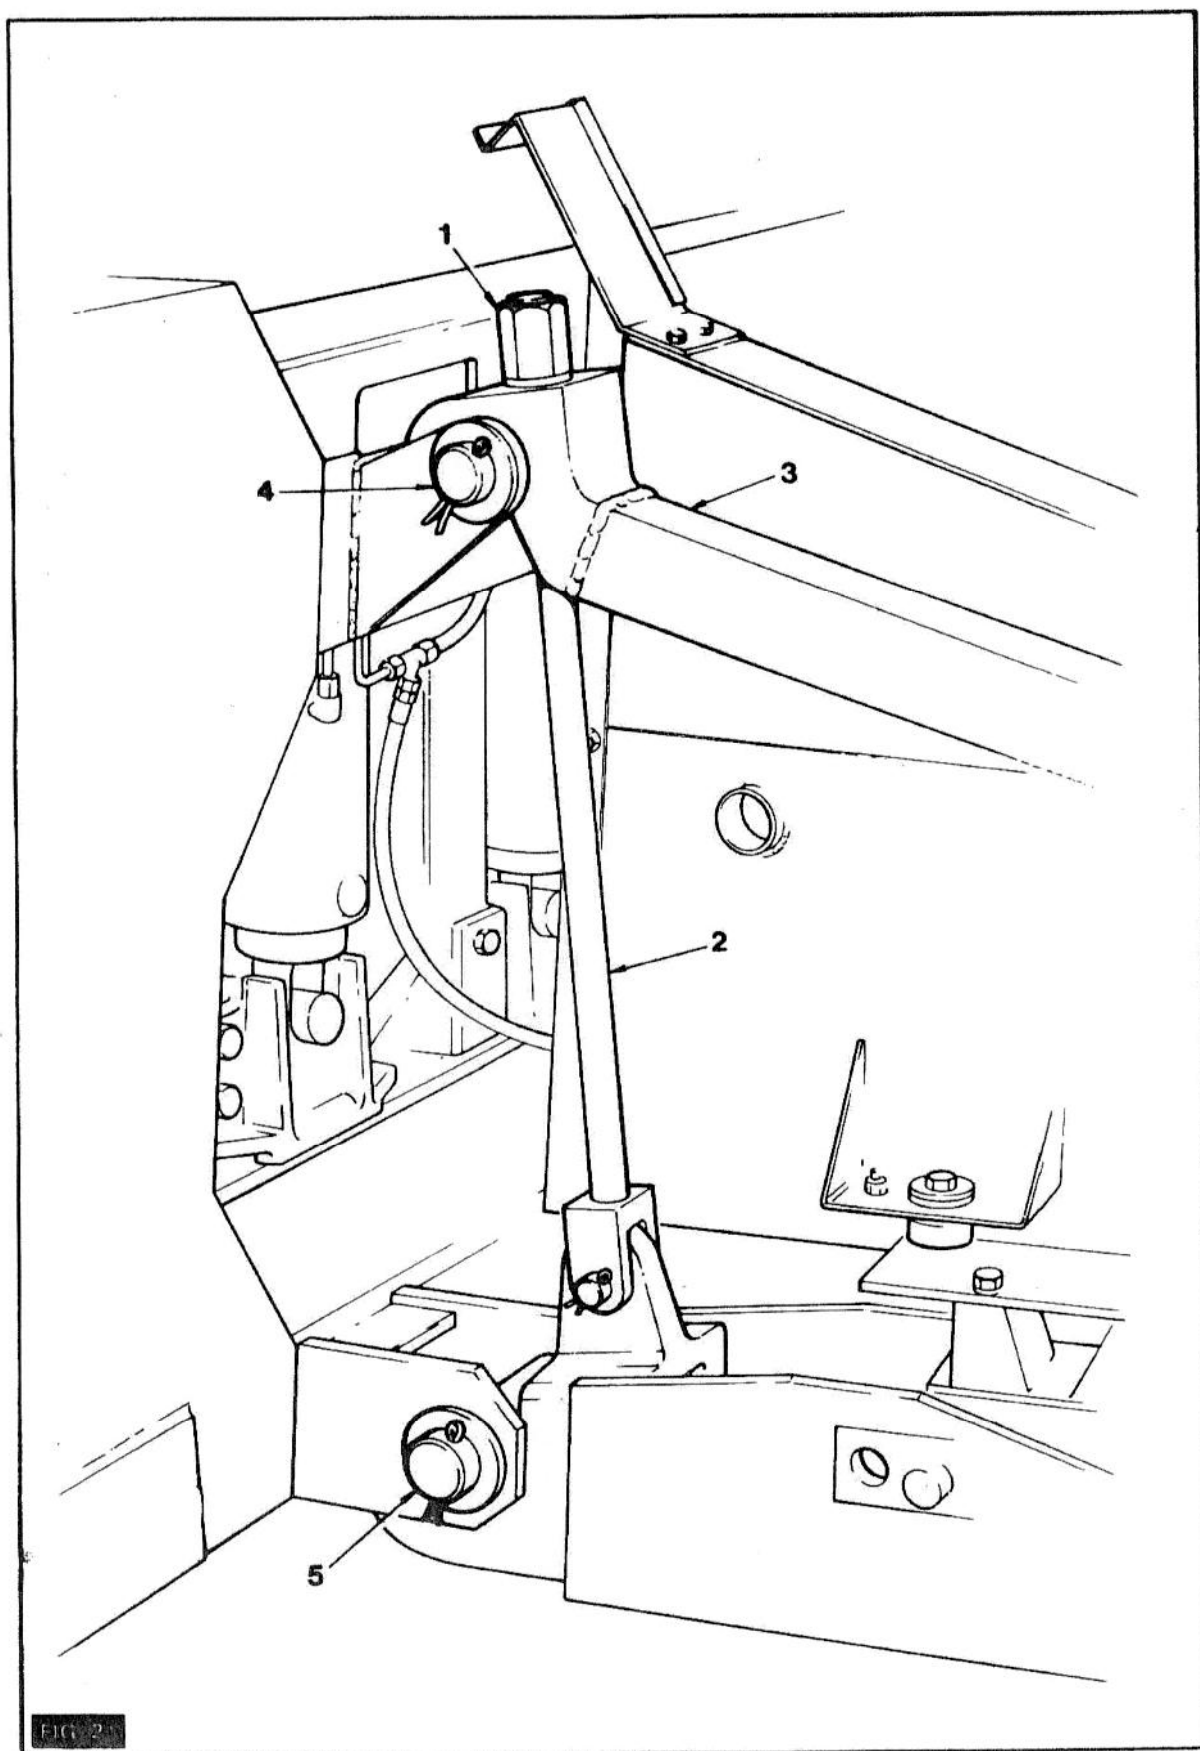

FIG. 2
4. (Fig. 2) Unscrew the nuts (1) from the tie links (2) and lift the arms (3) from off the pin (4).
5. Carefully raise the frame by using the stabilizers until it is clear of the lower link (5) then move the tractor a few inches forward to clear the frame.